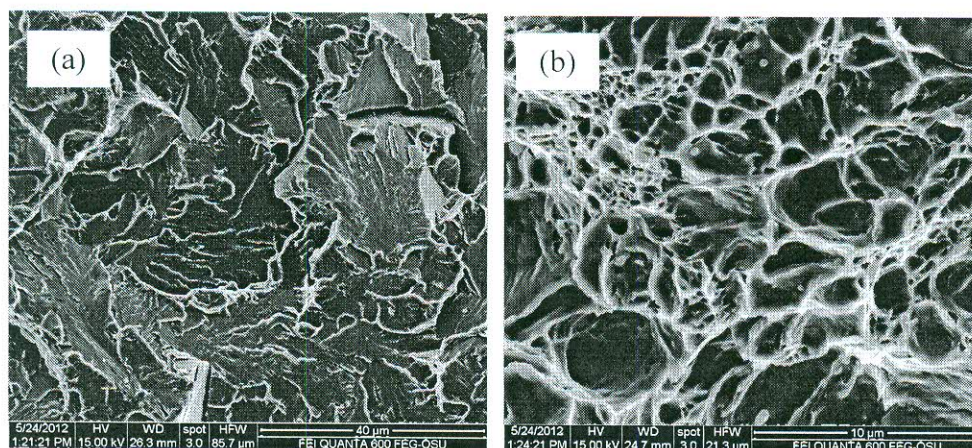

Figure 1(a) & (b) : SEM micrograph of samples
- [b] Two steel samples were sent for mechanical testing and the SEM micrographs of their fractured surfaces are given in Figure 1. Steel sample X was hardened and sample Y was annealed. Choose between Figure 1 (a) and (b) to match with samples X and Y. Explain your choice and why.